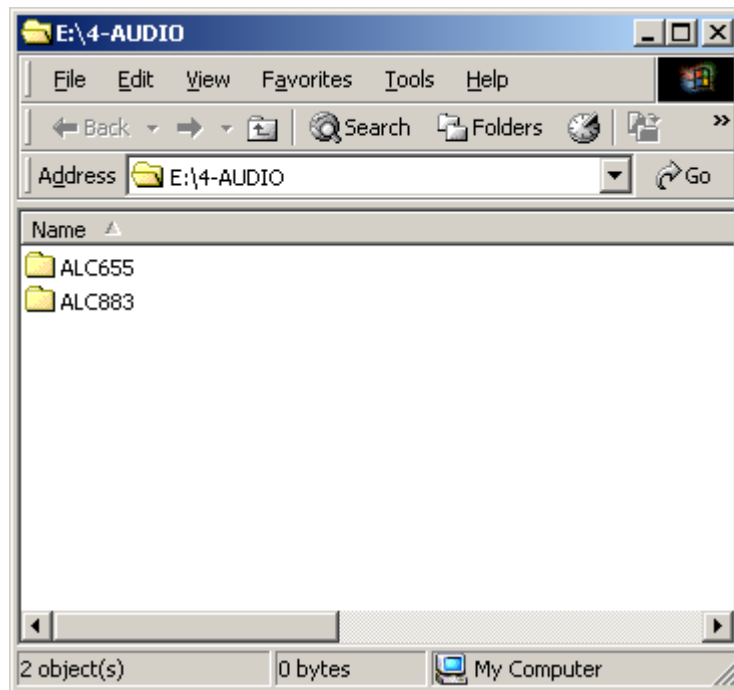

Figure 6-21: Select the Audio CODEC
Step 2: A new window opens (**Figure 6-21**).